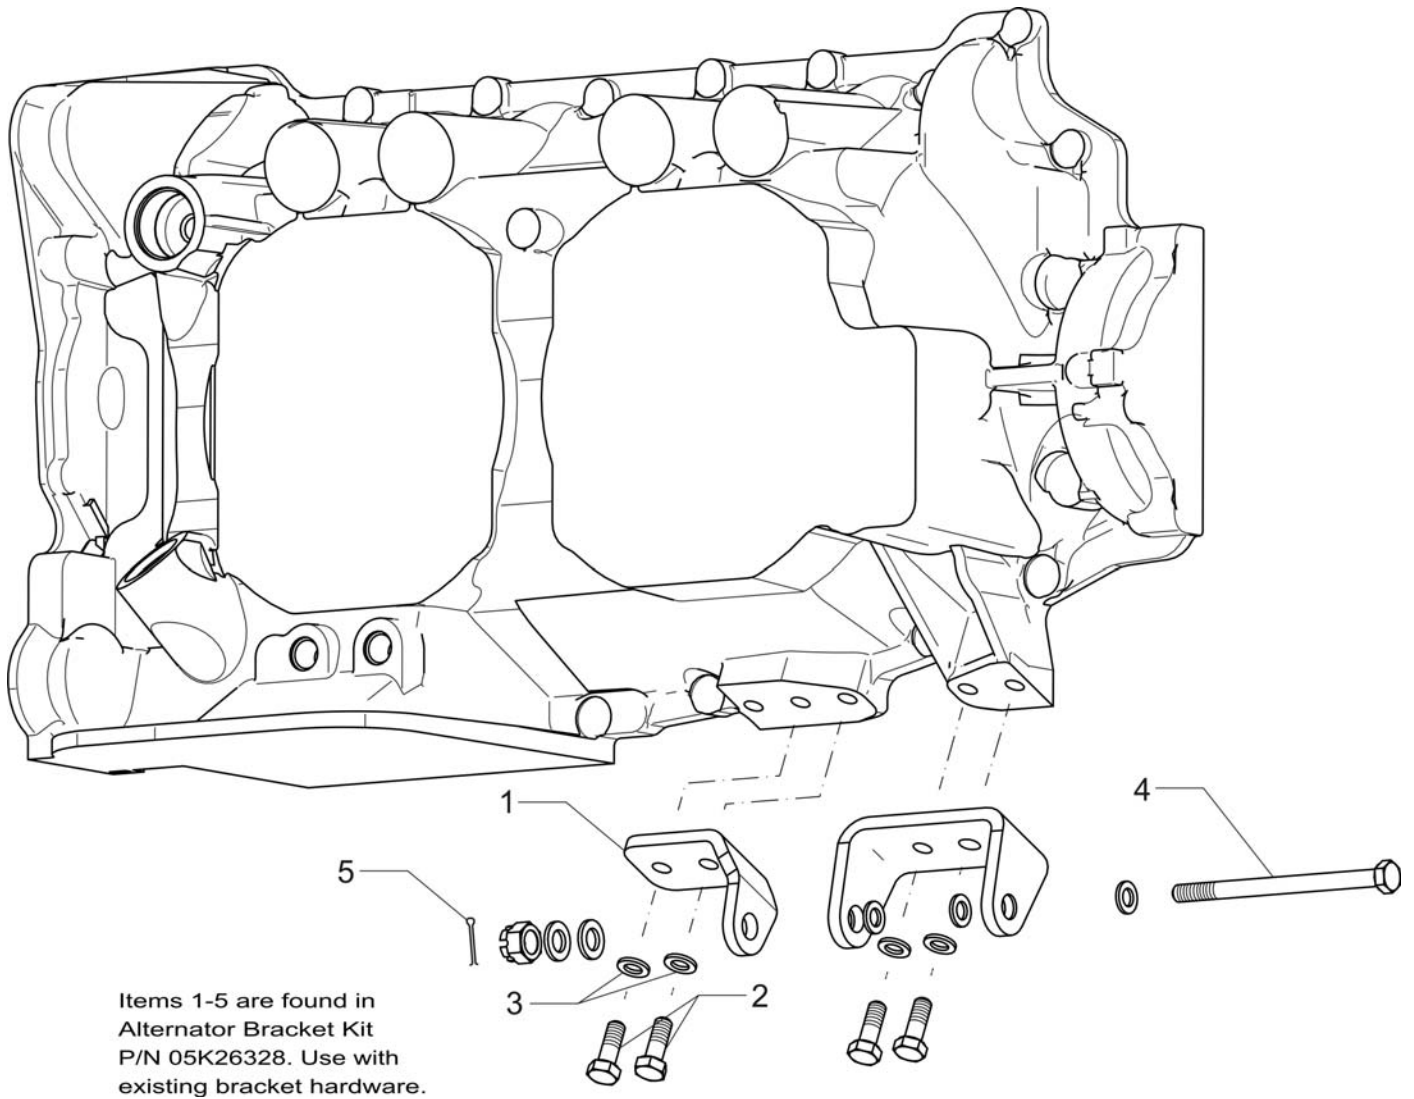

Figure 2. Installation of Additional Support Components
4. Install the additional bracket kit components #1, #2, and #3 as shown in Figure 2. Torque to 17 ft-lbs. and safety wire the bolts per FAA AC 43.13-1B.